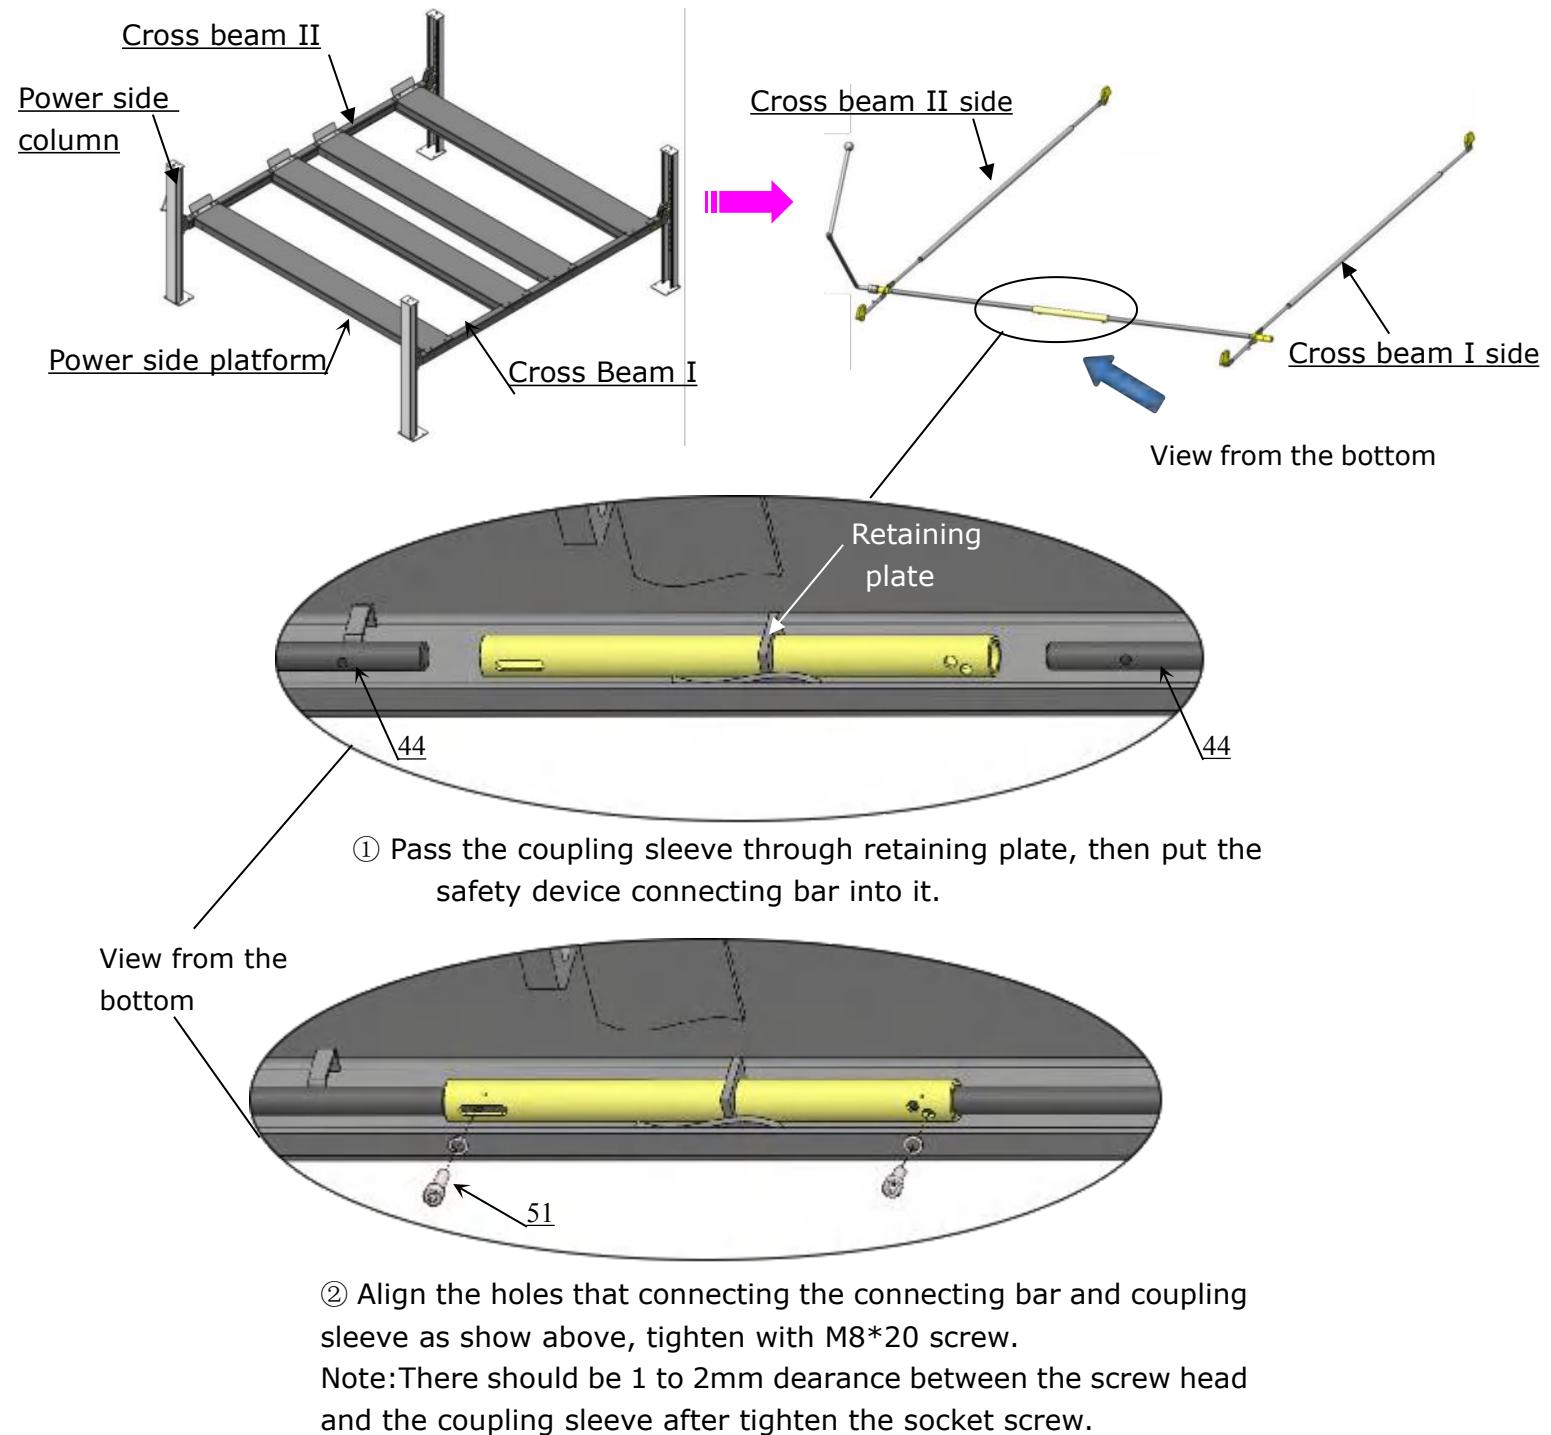

Fig. 27
2.2, Coupling sleeve installation illustration when power side column is in the position as shown below. (See Fig 27)